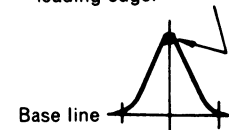

Fig. 9
1. Feed in a weak signal to TP102 from the genescopes. Adjust T101 for maximum gain and the waveform indicated in Figure 9. If the center of the waveform cannot be lined up on the marker, adjust the right/left balance.